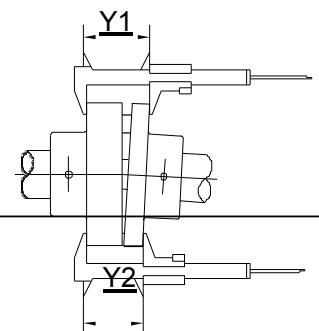

Fig. 9
- 10 - Angular misalignment can be measured with a Calliper. Measure the outside coupling dimension at several points (see fig. 9). Find the minimum and maximum width of the coupling, the difference between these two readings "Y" (Y1-Y2) should no exceed the value listed in tab. 2 for the given coupling size (NOTE: the optimal values have to be considered half of the reported data). Should this value be greater it will be necessary to correct the alignment by re- shimming the pump and/or motor.